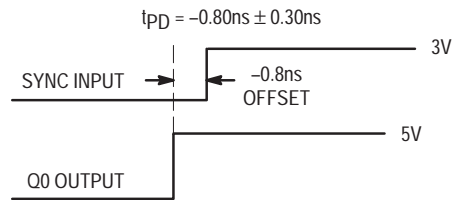

Figure 2. Depiction of the Fixed SYNC to Q0 Offset (t_{PD}) Which Is Present When a 470KΩ Resistor Is Tied to V_{CC} or Ground
- A 470KΩ resistor tied to either Analog V_{CC} or Analog GND, as shown in Figure 2., is required to ensure no jitter is present on the MC88LV926 outputs. This technique causes a phase offset between the SYNC input and the Q0 output, measured at the pins. The t_{PD} spec describes how this offset varies with process, temperature, and voltage. The specs were arrived at by measuring the phase relationship for the 14 lots described in note 1 while the part was in phase-locked operation. The actual measurements were made with a 10MHz SYNC input (1.0ns edge rate from 0.8V to 2.0V). The phase measurements were made at 1.5V. See Figure 2. for a graphical description.